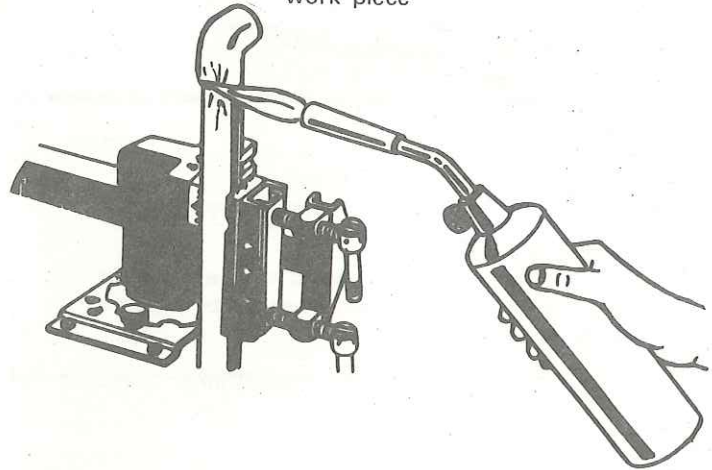

FIG. 10
3. Sawing dowels or fitting pipe is easy when they are held either vertically or horizontally in the "V" grooves. (See Figure 10).